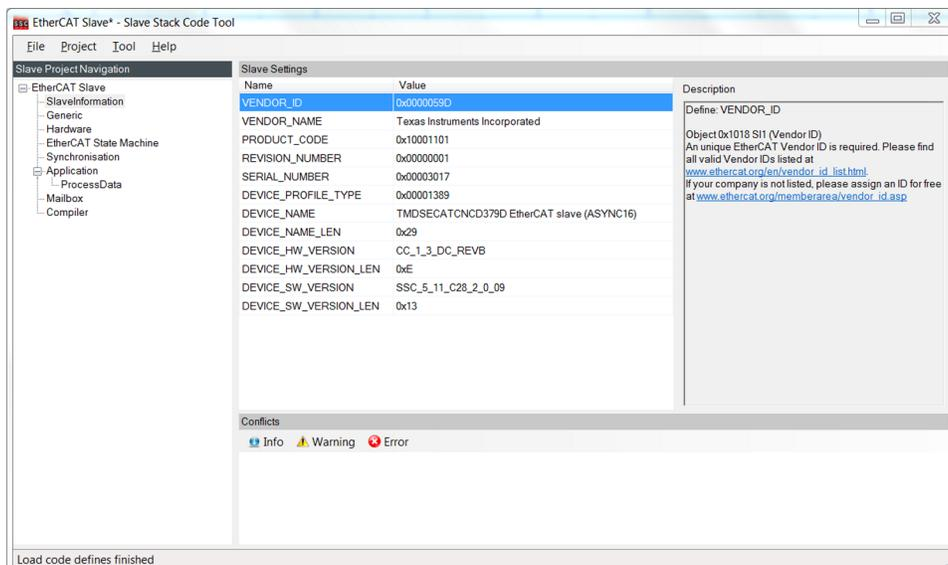

Figure 13. Slave Information
5. Now the C28xx configuration should be imported. Inspect the slave information (see Figure 13).